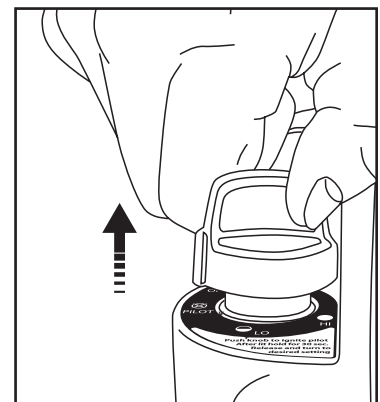

Figure 4: Release knob.
- After pilot lights, hold down for 30 -60 seconds and then release knob. Knob should return to fully extended position; see Figure 4. To operate heater slightly depress knob and gently turn to lock in the "HI" position to light burner tile. Leave on "HI" position until burner tile turns bright orange.